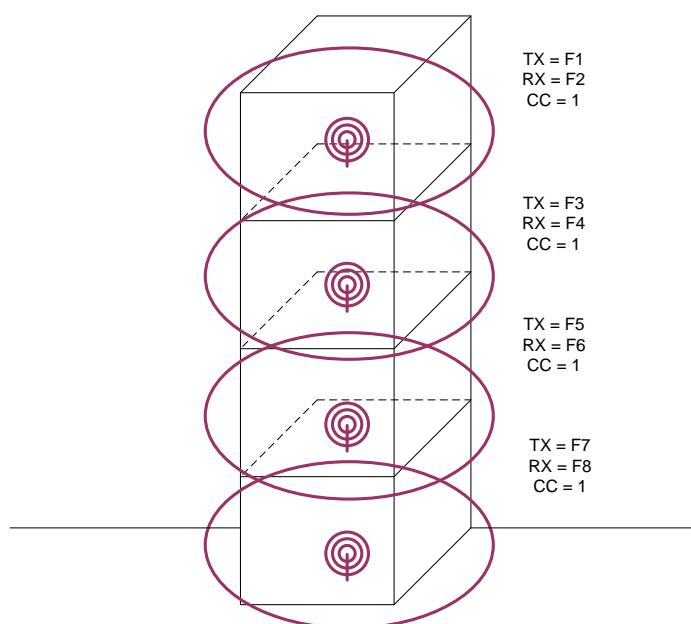

Figure 2-9 Multi-Story Coverage
4. **Multi-Story Building Coverage** – This type of coverage consists of sites that are situated extremely close to each other with short range coverage and overlap across all sites; refer to Figure 2-9. Such coverage is mostly utilized in multi-story buildings, but can be encountered in other man-made structures, such as tunnels, large vessels or underground passageways. Frequency reuse is not common due to the small coverage footprint usually implemented with in-building radiax antenna systems. Users in such RF coverage also often experience quick signal strength drop offs due to the nature of in building coverage. A radio will only be within coverage of one to two sites at a time. The time it takes a radio user to move from the coverage of one site to another is in the range of one minute.